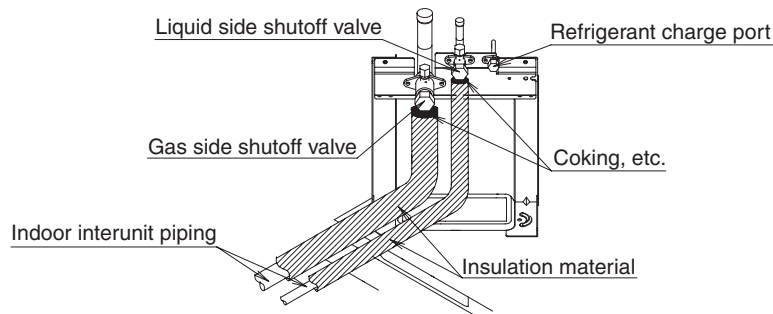

figure 29
- If there is a possibility that condensation on the shutoff valve might drip down into the indoor unit through gaps in the insulation and piping because the outdoor unit is located higher than the indoor unit, etc., this must be prevented by caulking the connections, etc. (Refer to figure 29)